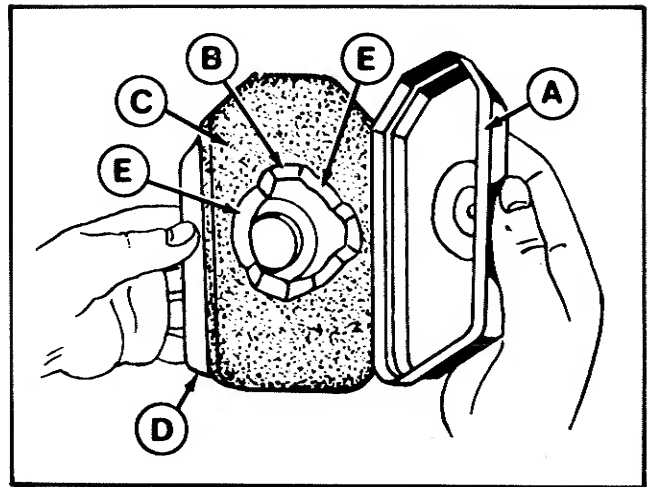

FIGURE 11 - AIR CLEANER
1. The air cleaner is shown in Figure 11. Remove the air cleaner carefully to prevent dirt from entering the carburetor. To remove the air cleaner remove the screw from cover.
3. Install the cup and element back into the body in original position. See Figure 11. Install element so lip extends over edge of air cleaner body. The lip will form protective seal when cover is installed.